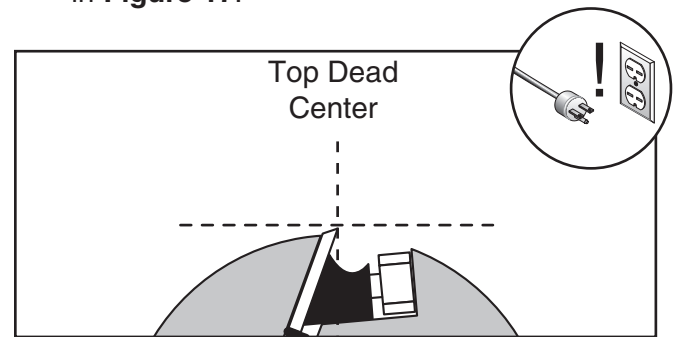

Figure 17. Cutterhead knife at top-dead-center.
6. Rotate the cutterhead pulley until one of the knives is at top dead center (TDC), as shown in **Figure 17**.